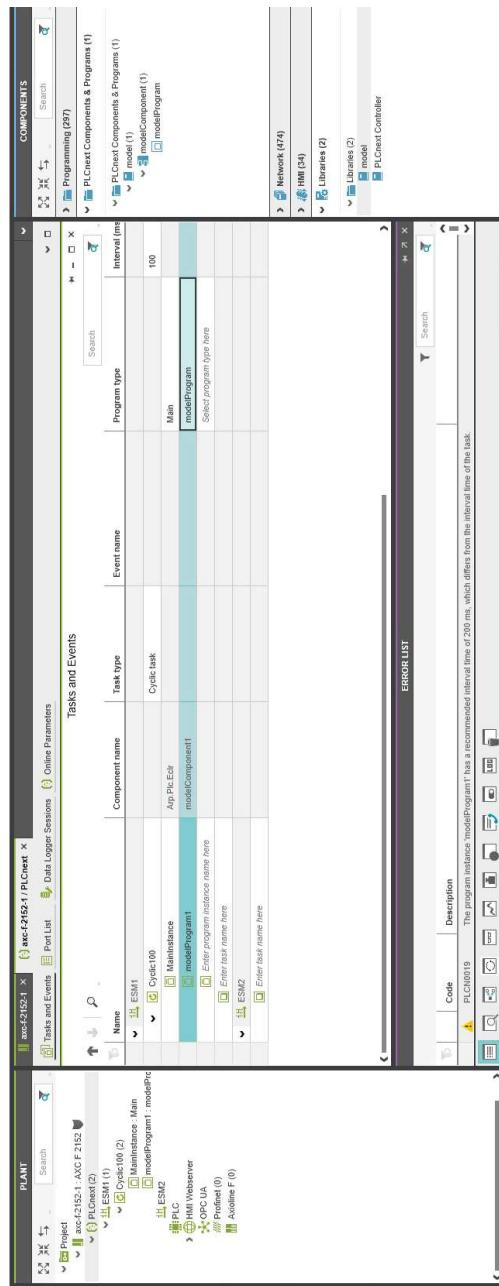

Figure 6-2 Example: instantiating the “modelProgram” model program
- Drag and drop the “<model>Program” model program below the desired task (in **Figure 6-2: “Cyclic100”**).